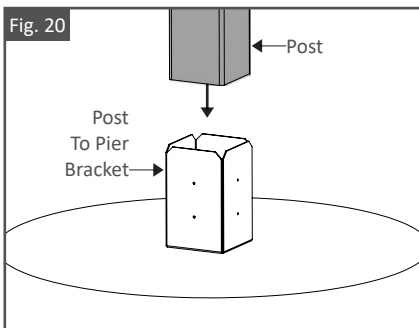

Fig. 21
2. Be sure to have Single Beam to Post Brackets orientated in desired direction to allow for the Beam to be mounted correctly. As shown in Fig. 21. Adjust if needed.